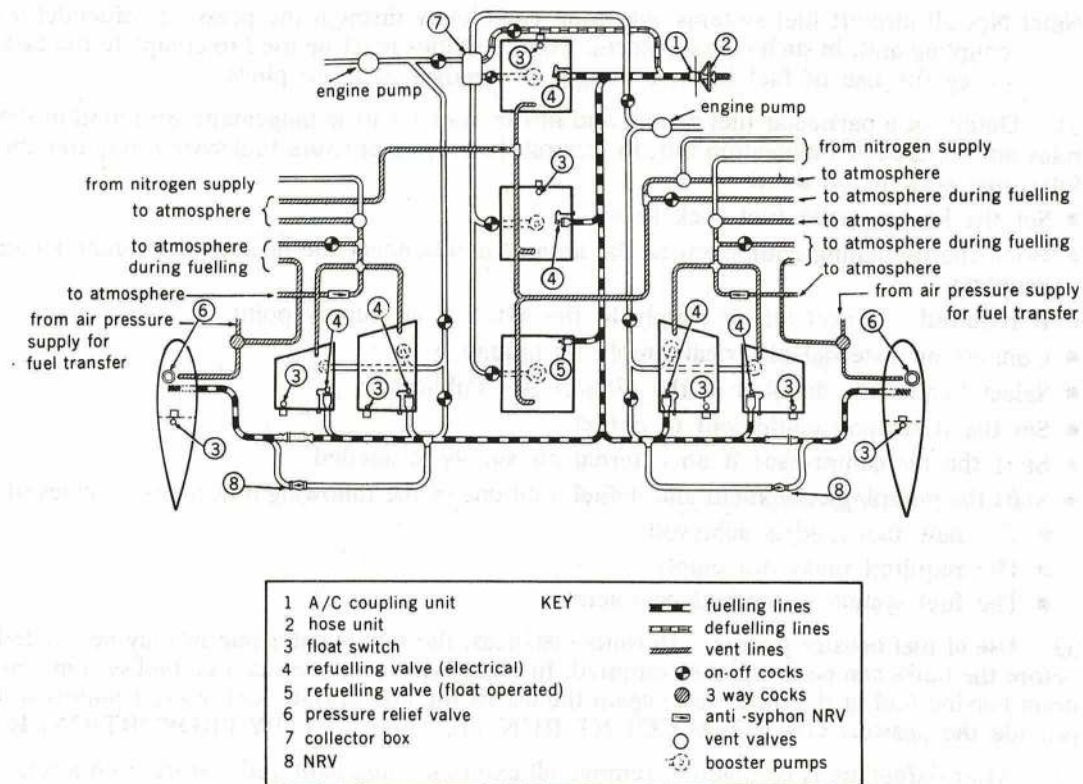

Fig 6.1.10 A typical pressurized fuel system
35. The pressure filled fuel system which uses air pressure for fuel transfer is in many respects a sealed system, and yet to prevent the generation of excessive pressures, the system must have vents which are capable of controlling the pressure (Fig 6.1.10). Rapid changes in outside air temperature will cause thermal expansion or contraction of the fuel and air inside the fuel system. If the pressure inside the fuel system rises, it is necessary to allow excess pressure to vent outwards or, if the internal pressure drops, air must be allowed to enter and restore the pressure; this is called outward and inward venting. It may be catered for by a single double-acting vent valve or two valves may be used. Fuel systems are subjected also to rapid